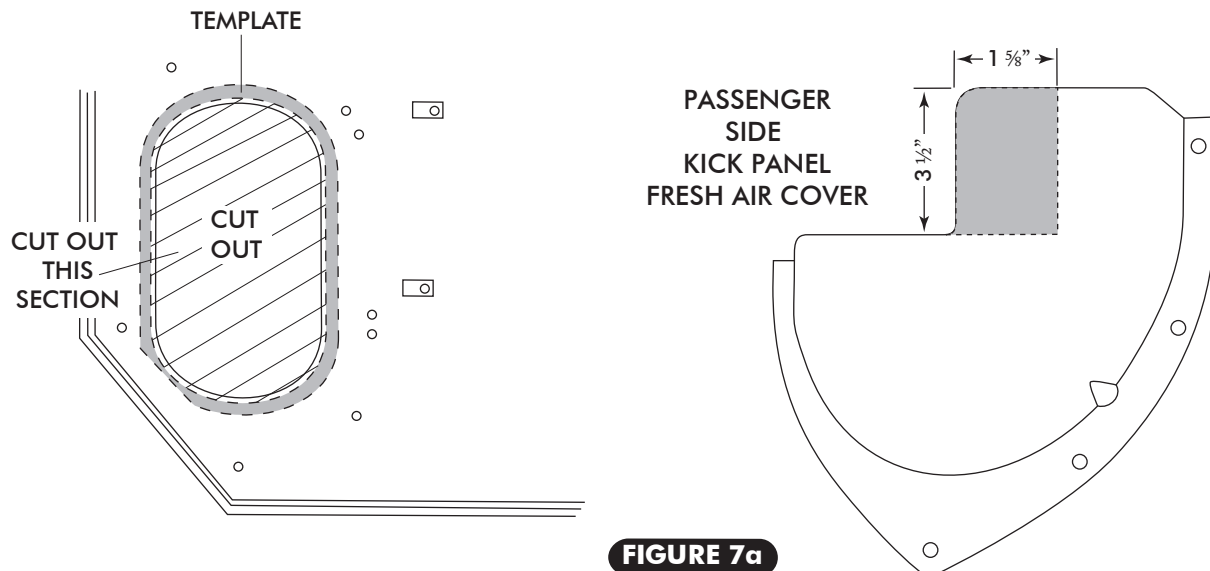

FIGURE 7a
- ☐ CUT FRESH AIR DOOR ASM USING THE TEMPLATE PROVIDED ON PAGE 25 (SEE FIGURE 7a, BELOW).
- ☐ CUT AND TRIM PASSENGER SIDE KICK PANEL FRESH AIR COVER AS SHOWN IN FIGURE 7a, BELOW.